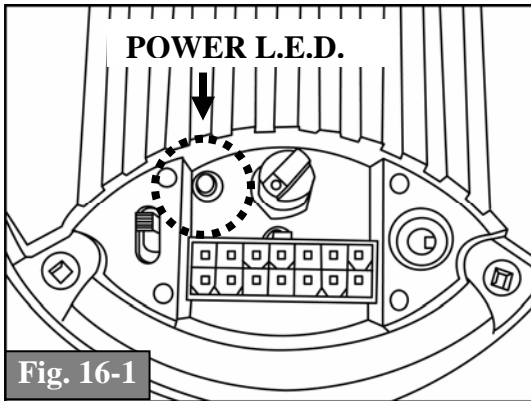

Fig. 16-1
- (1) Securely fasten (hand tight) the four (4) mounting screws using the #2 Philips Screwdriver. DO NOT OVERTIGHTEN
14. Reassemble Center Instrument Panel (IP)
- (a) If system is installed correctly, the Bazooka Tube will power up when the vehicle's ignition is turned on. (This can be confirmed by the lighting of the POWER L.E.D. on the back of the unit.) (Fig. 16-1)